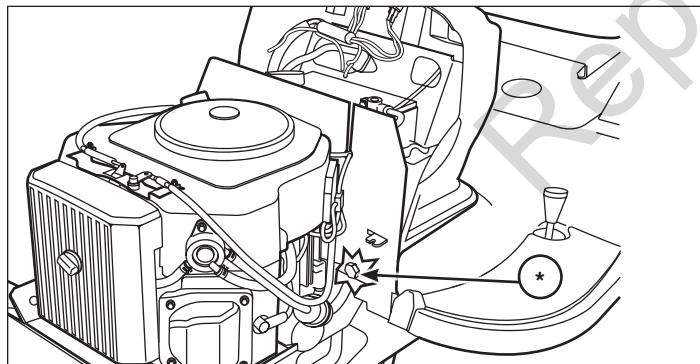

**Figure 3**
1. Install the lock plate (**EE**, Figure 3) with existing pin and additional pin (**G**). Secure with existing hair pin and additional hair pin (**H**). The pre-existing washers are not used with the lock plate.